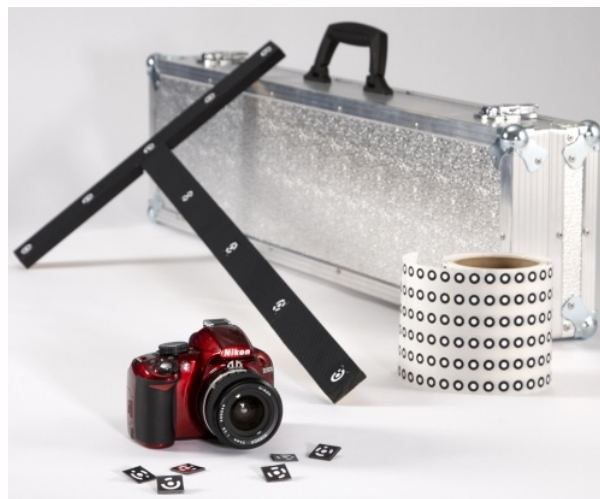

Figure 59: *Scan Reference* kit
2. Place the cross (Figure 59) on the scene, ensuring that it rests firmly, and it is seen from most points of view. Also double check that all targets on the cross are clearly visible.
This synergy of technologies is possible thanks to Artec 3D-scanner and photogrammetry solutions. Several third-party photogrammetry offerings are available on the market. *Scan Reference* photogrammetry is one example. The *Scan Reference* kit includes hardware and software (see Figure 59), a digital camera, a reference-scale cross, non-coded sticky targets (which Artec Studio uses to match the captured 3D data to the photogrammetric measurements), and reusable magnetic coded targets (required to automatically carry out measurements in the *Scan Reference* software).